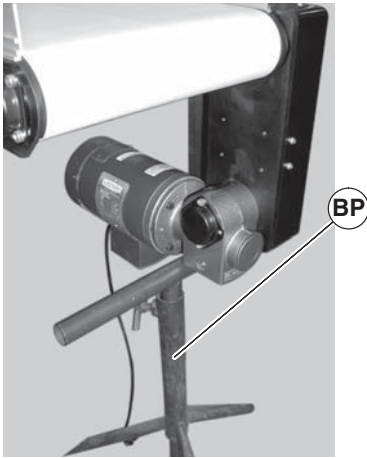

Figure 59
- a. Use a temporary support (Figure 59, item BP) to support Gearmotor.